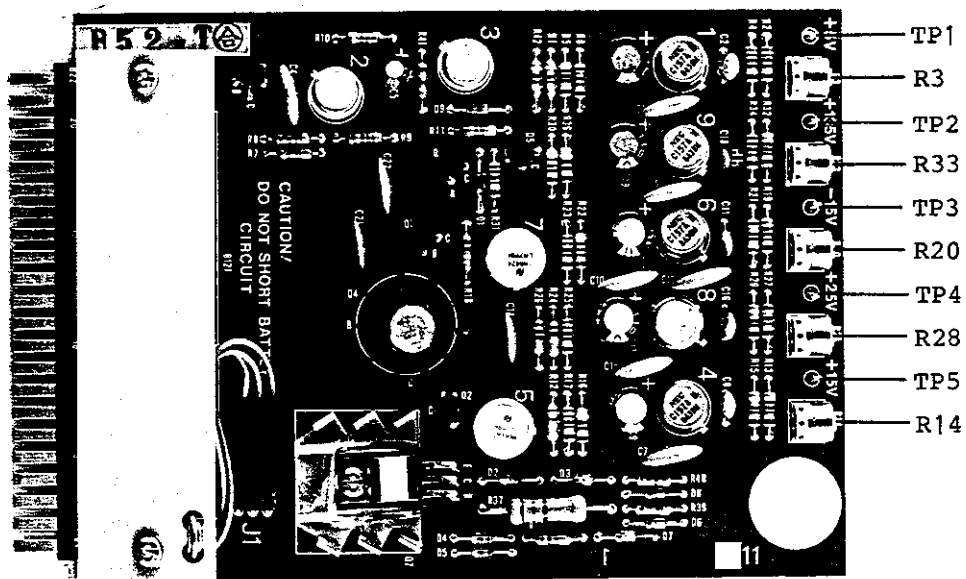

Fig. 11-2 Locations of adjustment controls and test points on the DISPLAY POWER 1 board (BGC-011865)
- ① Set the POWER switch to ON, and check the supply voltage at each test point. The location of voltage adjustment controls and test points are shown in Figure 11-2.
- ② Using the voltage adjustment controls corresponding to each test point in the following order, adjust supply voltage until within specifications listed in Table 11-3.